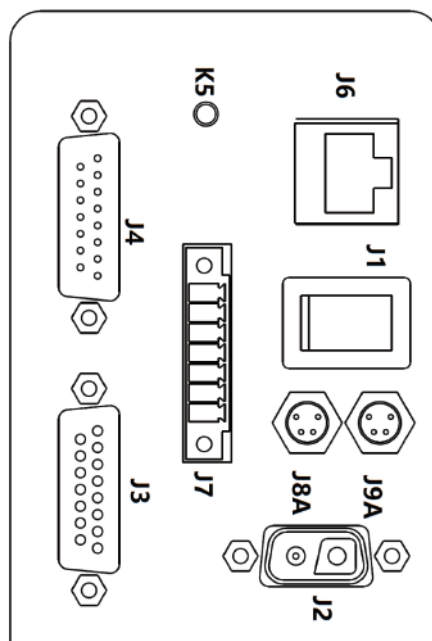

Figure 1
1. General schematic diagram of the base interface at A (shown in Figure 1)
## 2. Figure 1 interface definition description
## 3. The internal circuit design of the J3 and J4 interfaces in Figure 1